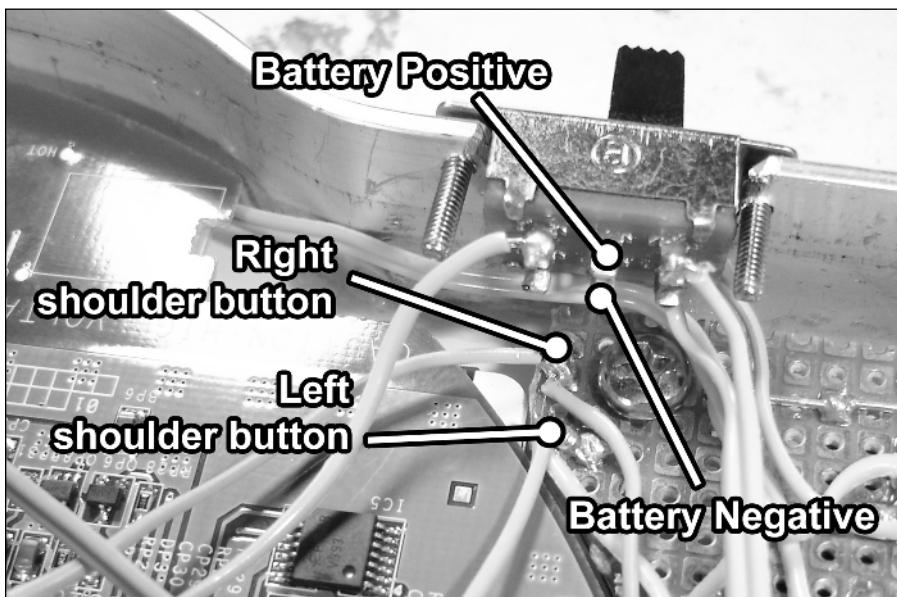

FIGURE 10-37: Connecting the right and left shoulder buttons to the PC board.
1. We'll start by attaching the left and right shoulder button wires that are coming from the rear of the unit, under the SNES board. They connect to the left PC board just under the on/off switch, as shown in Figure 10-37.